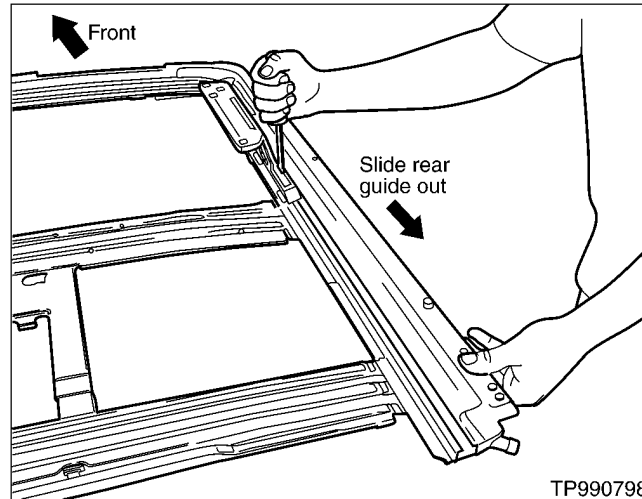

Figure 8
8. Insert a screwdriver and pull each rear guide out of the sunroof rail assembly until the cable is removed (see Figure 8). The drain guide will come out automatically as the guide is removed.